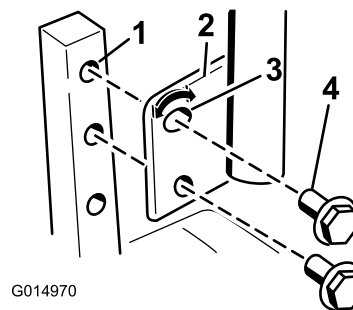

Figure 23
1. Remove the 2 bolts holding the control lever to the control-arm shaft (Figure 23).
3. Secure the lever with the 2 bolts (Figure 23).
2. Loosen the lower bolt just enough to pivot the control lever fore or aft (Figure 23).